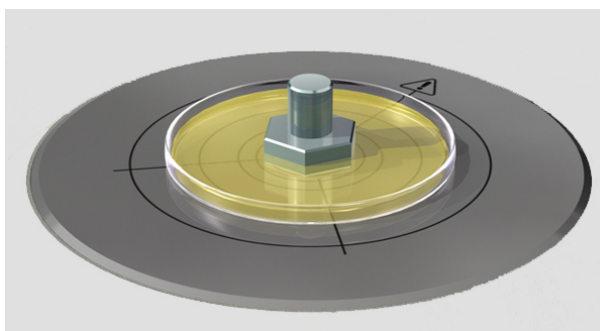

Figure 14 Liquids Transflectance Accessory in Position
4. Position the sample dish and reflector centrally over the sample window, as shown in Figure 14.
2. Position the sample dish and reflector centrally over the upper sample window, using the sample locator, as shown in Figure 14.